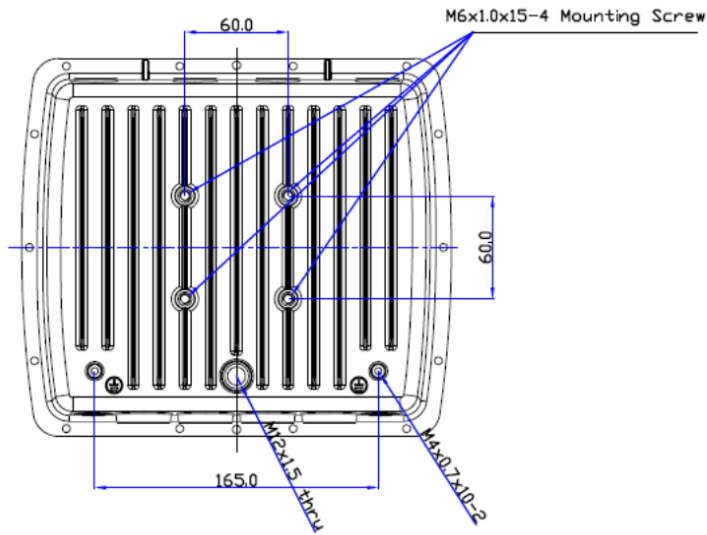

Figure 72: Enclosure placement dimensions (mm)
3. Pin 2 should be negative (black wire) and Pin 1 should be positive (red wire). It is recommended to install an Earth Ground Wire. There are positions available on the enclosure for this (Figure 72).